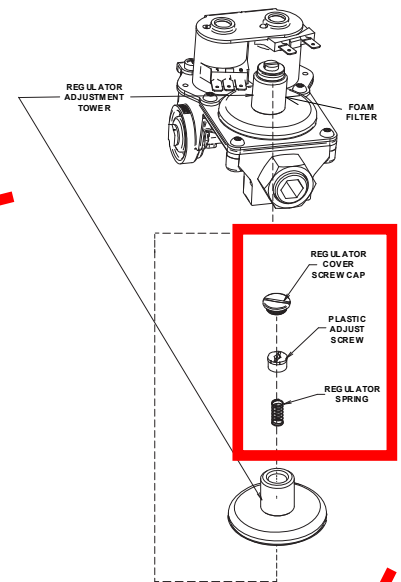

Figure 3
- 9) Slide the foam filter up around the cap screw to remove the filter (see Figures 3 & 4).
- 10) Remove the regulator cover screw cap (see Figure 3).